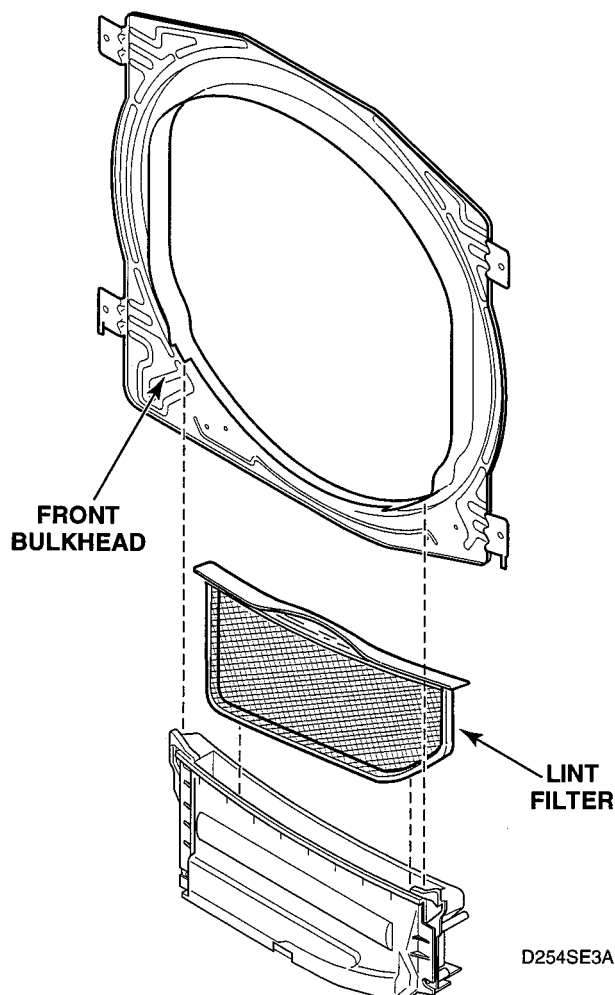

Figure 5-23
29. CYLINDER LIGHT (FIGURE 5-23)
- Open loading door and remove screw holding lens to the front bulkhead. See figure 5-23.
30. CYLINDER LIGHT RECEPTACLE (Figure 5-23)